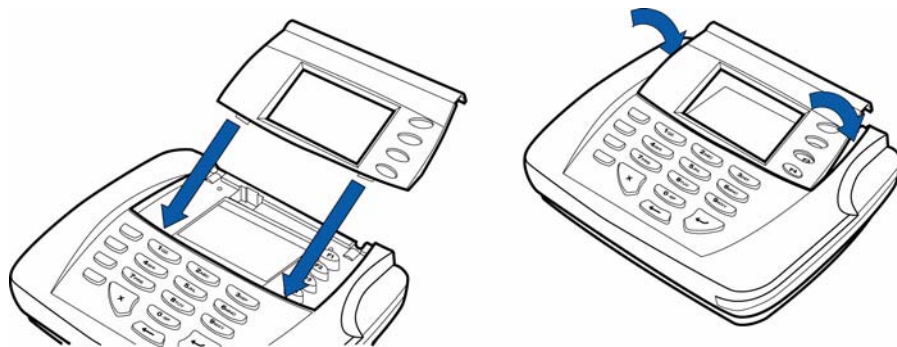

Figure 15 Install Signature Capture Module
- 2 Insert the signature capture module tabs into the mounting holes below the lens slot (Figure 15). Gently push the top into place.